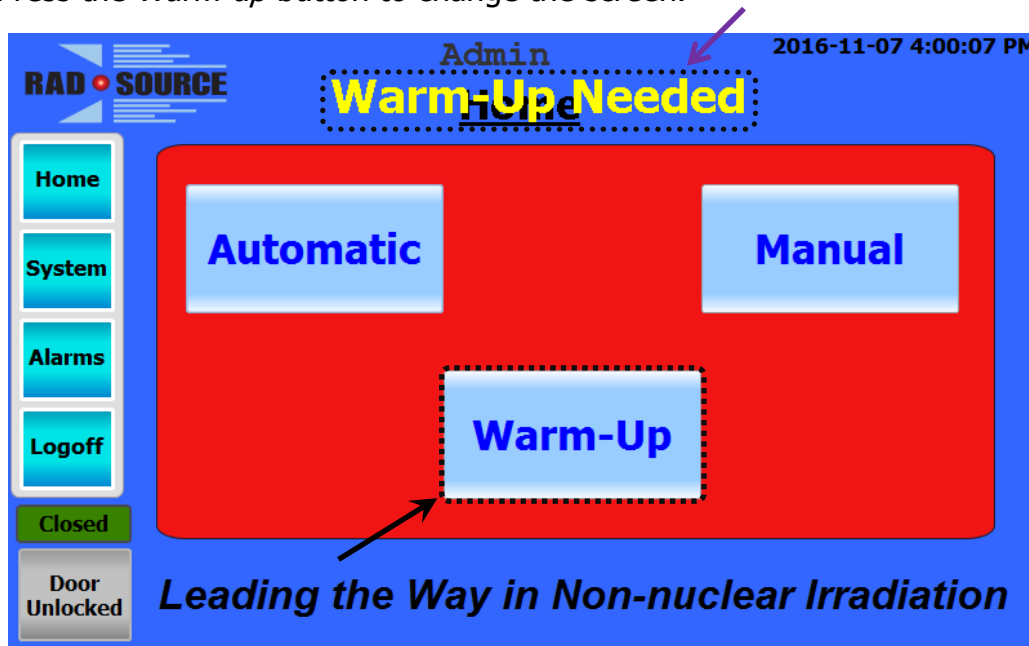

Figure 32: Warm-Up Needed
1. An indication will appear if a warm-up is needed. (See Fig. 32.)